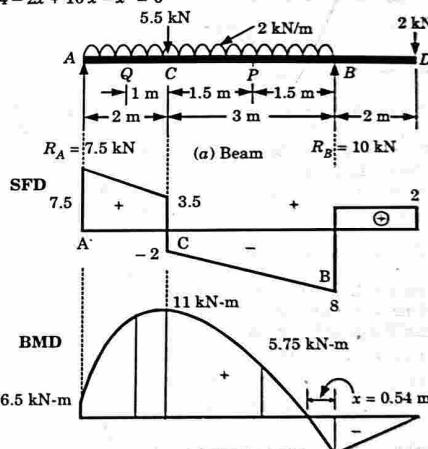

Fig. 2.19.3.
6. SFD and BMD are shown in Fig. 2.19.3.